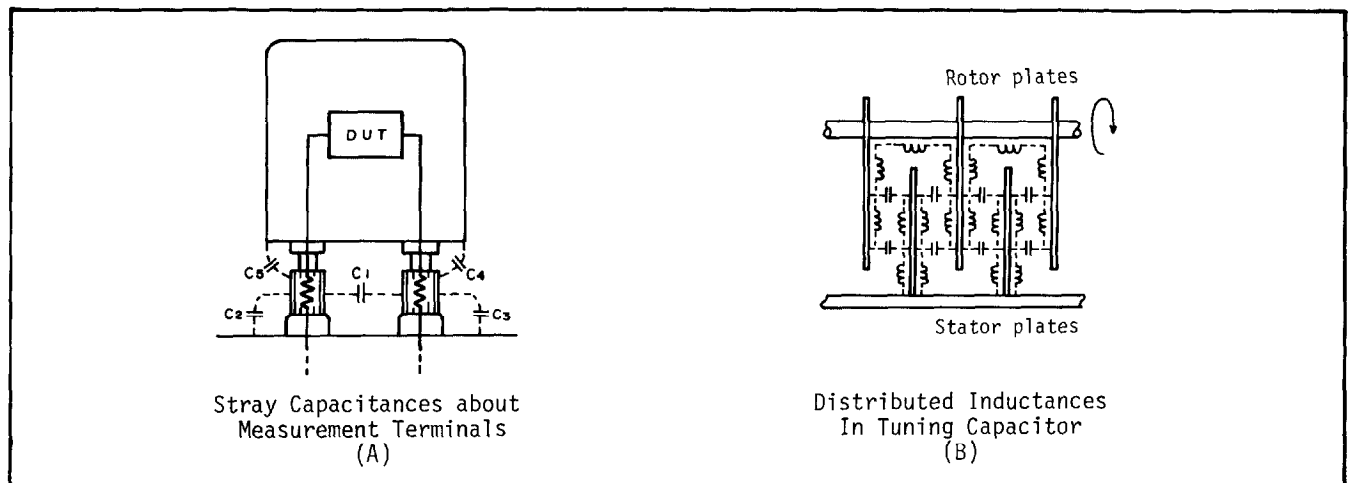

Figure 3-11. Residual Parameters.
3-61. Certain residual impedance elements change with the method of connection of the sample; in addition, the residual impedance also depends upon the mutual distances between the sample and the individual components of the measurement apparatus. Typical circuit models showing such residual factors are illustrated in Figure 3-11.  $C_4$  and  $C_5$  in
Figure 3-11 (A) exhibit the stray capacities added by connecting a sample with a shielded case. This capacitance increase adds to the stray capacitances ( $C_1$ ,  $C_2$  and  $C_3$ ) around the measurement terminals. In a series measurement, the shorting strap, for initially short-circuiting the unknown connection terminals, has its own residual impedance. Additionally, its contact resistances differ from those of samples. Small changes in the loss and the distributed inductance of the tuning capacitor affect measurement accuracies. Figure 3-11(B) graphically shows an electrical model of a variable capacitor. The distributed inductance and the loss varies depending on the position of the capacitor rotor. In the 4342A, these residual factors are minimum because specially designed, high quality variable capacitors are employed in the tuning circuit.